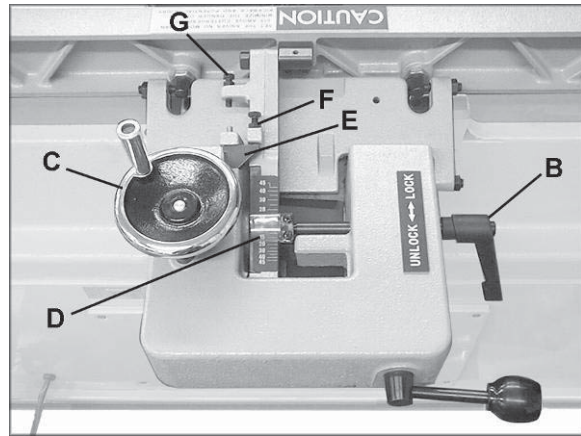

Figure 18
1. The 45° backward stop is controlled by the screw (G, Figure 18), which will contact the back of the fence when the fence is tilted backward.
2. Flip the stop block (E, Figure 18) out of the way.
3. Loosen the locking handle (B, Figure 18) and loosen the hex nut on the screw (G, Figure 18).
5. If necessary, turn the screw (G, Figure 18), until the fence lies flush against the angle measuring device.
6. Re-tighten the hex nut on the screw (G, Figure 18) and tighten locking handle (B, Figure 18).
All locking handles of the type shown in B, Figure 18, can be rotated if they are in the way of other machine parts. Simply lift straight out on the locking handle and rotate it, then release, making sure it seats properly.